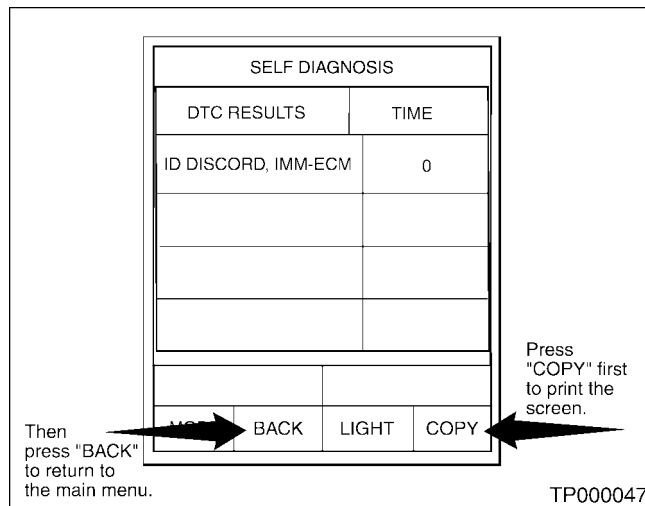

Figure 6
6. Confirm Self Diagnosis Result "ID DISCORD, IMM-ECM" displayed on the CONSULT-II screen (see Figure 6).
7. Press "COPY" to print the Self-Diagnosis screen (see Figure 6). Attach this printout to the repair order. Then press "BACK" (see Figure 6) to return to the CONSULT-II main menu.